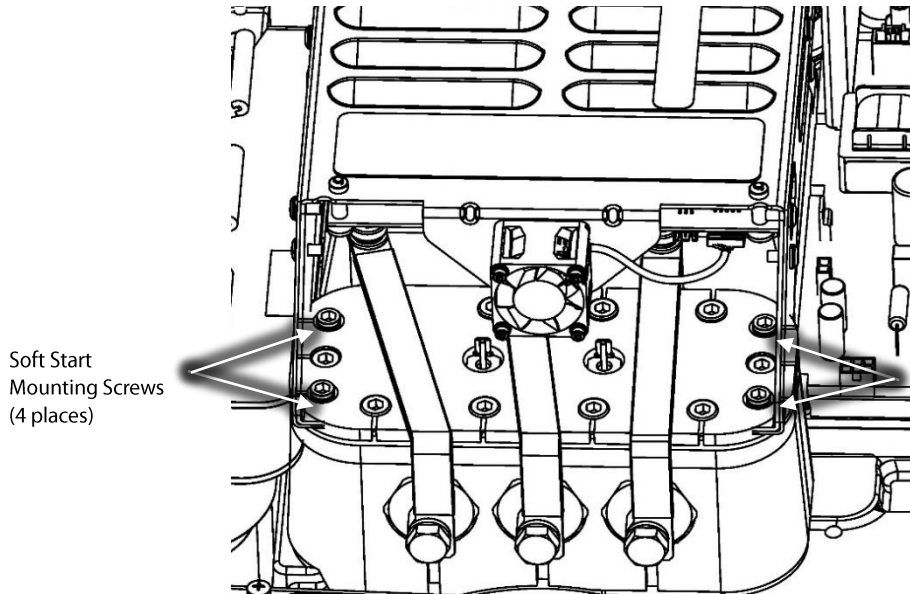

Figure 3 – Soft Start Mounting Screws
- Remove the fasteners that secure the Soft Start mounting bracket to the compressor. Refer to Figure 3 (Soft Start Mounting Screws).